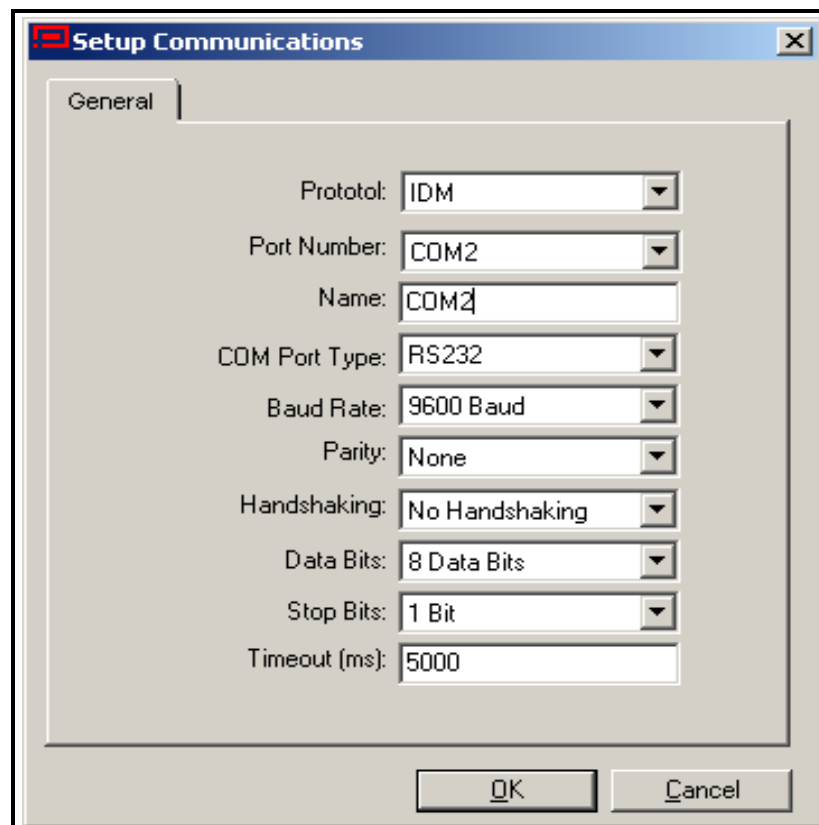

Figure D-3: *Setup Communications* Screen
- Click on the “*Communications Port*” option to select it. The *Setup Communications* screen appears similar to Figure D-3 below.